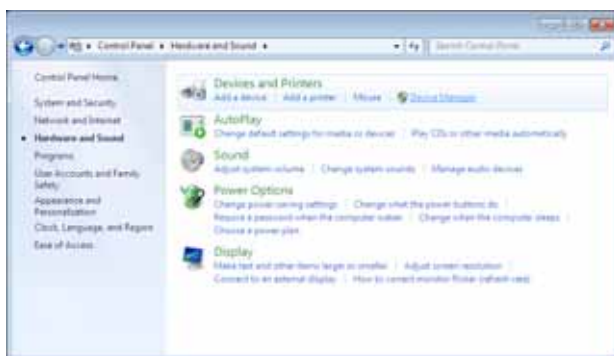

Figure 6. Control Panel Window – Hardware and Sound
- Open the Control Panel and select **Hardware and Sound** (see Figure 6).